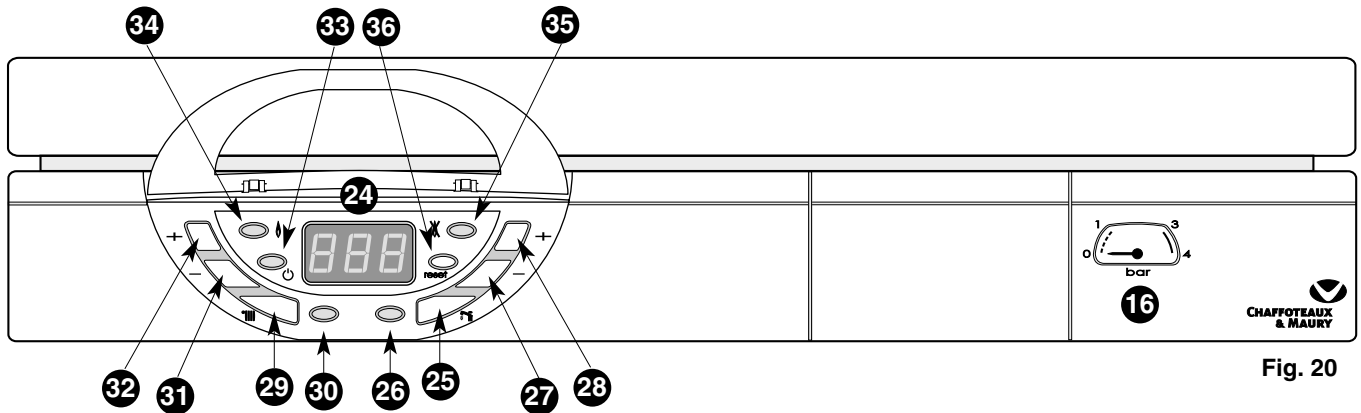

Fig. 20
Control panel (Fig. 20)
1. Check that the pressure in the central heating system is above 0.7 bar and below 1.5 bar with the pressure gauge **16** (Fig.20)
2. Check that the gas service tap is opened at the gas meter and the main power is on. Green indicator  (Power ON) **33** (Fig.20).
Press the  key **29**, the green indicator **30** (Fig.20) light and the display will show the Heating flow temperature.
Keys **31**  and **32**  (Fig.20) allow the temperature to be adjusted as required in the Central Heating system depending on the weather conditions.
Press the  key **25**, the green indicator **26** (Fig.20) will light :
Keys **27**  and **28**  (Fig.20) allow the temperature to be adjusted as required for the Domestic Hot Water flow. During the temperature setting operation the display will flash.
Press the  key **29** the green indicator **30** (Fig.20) will light.
Press the  key **25** the green indicator **26** (Fig.20) will light.
A fixed digit at the centre of the display and the green indicator **33** (Fig.20) will light.
Press the and keys, **25** and **29** (Fig.20) to switch off both the D.H.W. and the C.H. mode. The green indicators **30** and **26** (Fig.20) will go out.
- Press the and keys, **25** and **29** to (Fig.20) switch off both the D.H.W. and the C.H. mode. The green indicators **30** and **26** (Fig.20) will go out.